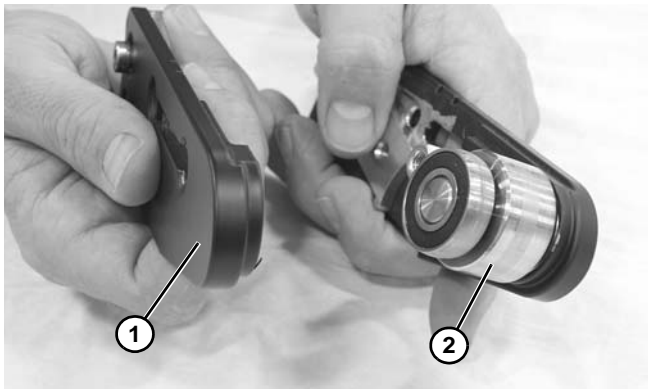

Figure 59
4. Remove the headplate (**Figure 59, item 1**) and remove the spindle (**Figure 59, item 2**).